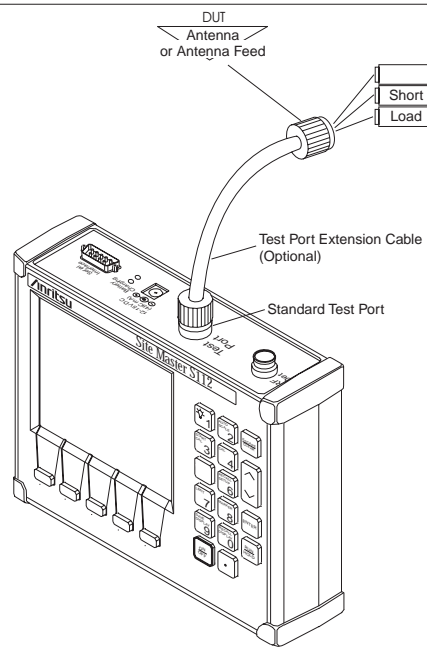

Figure 2-9. Measurement/Calibration Test Setup
“Connect LOAD, Press ENTER” instructions that appear in the message area. Connect the respective Open, Short, and Load component to the end of the Test Port Extension Cable (Figure 2-9) prior to pressing ENTER.
- Step 7.** Perform a measurement calibration, using the **START CAL** key. Select **CAL A** or **CAL B**. Follow the ensuing “Connect **OPEN**, Press **ENTER**,” “Connect **SHORT**, Press **ENTER**,” and “Connect **LOAD**, Press **ENTER**” instructions that appear in the message area. Connect the respective Open, Short, and Load component to the end of the Test Port Extension Cable (Figure 2-9, page 2-25) prior to pressing **ENTER**.